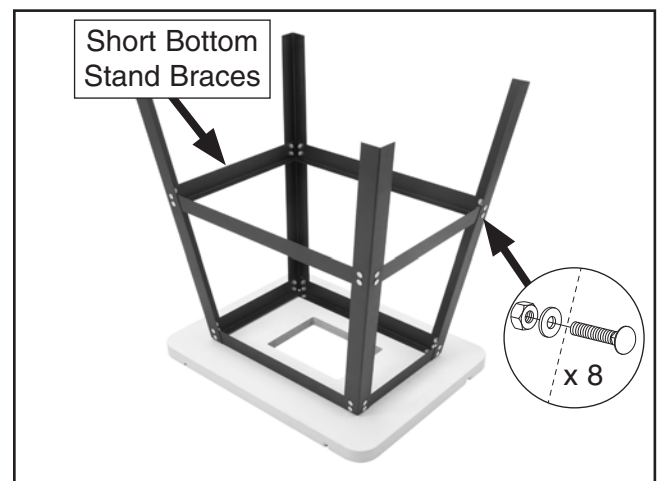

Figure 5. Short bottom stand braces attached to the legs.
4. Attach the short bottom stand braces with the remaining (8) M8-1.25 x 12 carriage bolts, 8mm flat washers, and M8-1.25 hex nuts, as shown in **Figure 5**.